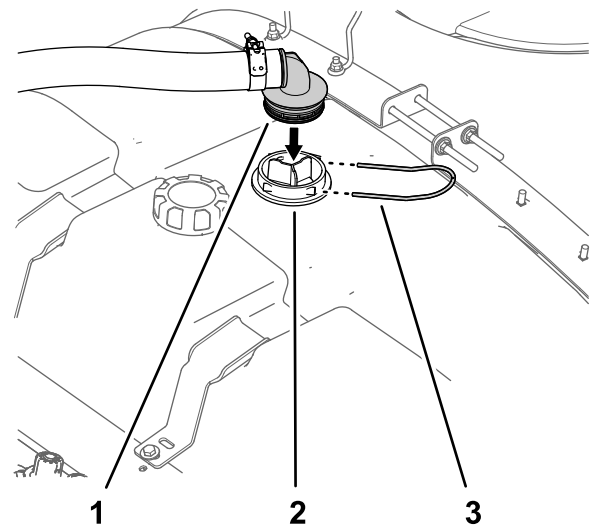

Figure 18
1. Align the 90° barbed fitting of the supply hose with the housing for the suction screen (Figure 18).
2. Secure the 90° barbed fitting to the housing (Figure 18) with the retainer fork that you removed in step 1 of Removing the Rinse Tank (page 6).